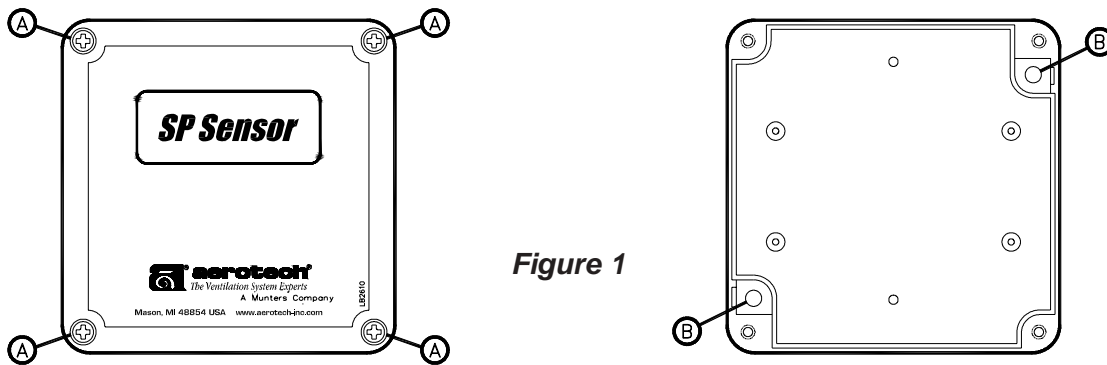

Figure 1
- 3) Open sensor cover by removing the 4 top cover screws, **See Figure 1, item A**. There are 2 mounting holes, **Figure 1, Item B**.